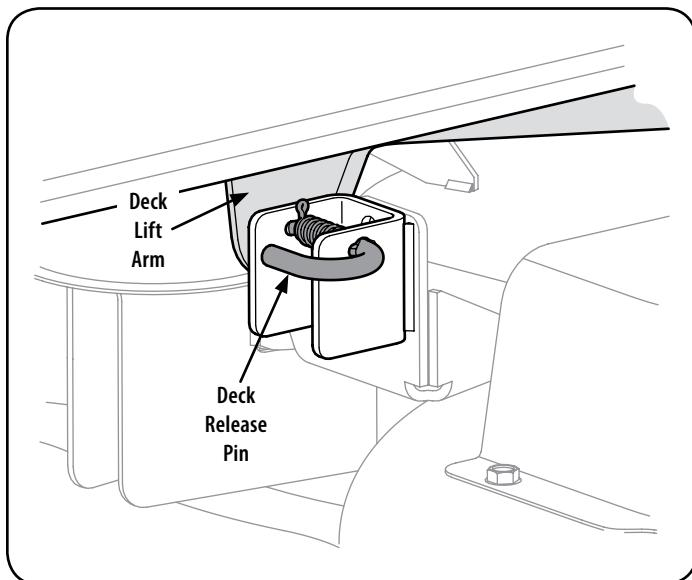

Figure 28
- Locate the LH and RH deck release pins on each side of the deck. Pull the release pins outward and release the deck from the LH and RH deck lift arms. See Figure 28.
- Pull the deck release pins outward and maneuver the deck as necessary to align the holes in the deck lift arms with the pins. Refer to Figure 28.